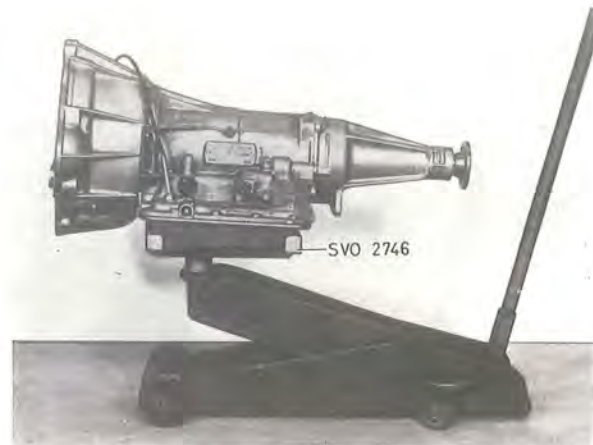

Fig. 4-77. Fixture for transmission
8. Disconnect the electric cables from the starter inhibitor. Unscrew the screws for the starter inhibitor. Place a jack with fixture SVO 2746 under the gearbox. See Fig. 4-77. Unscrew the attaching bolts for the converter casing. Pull the gearbox backwards and release the guide pin on the converter at the same time. Lower and remove the gearbox.